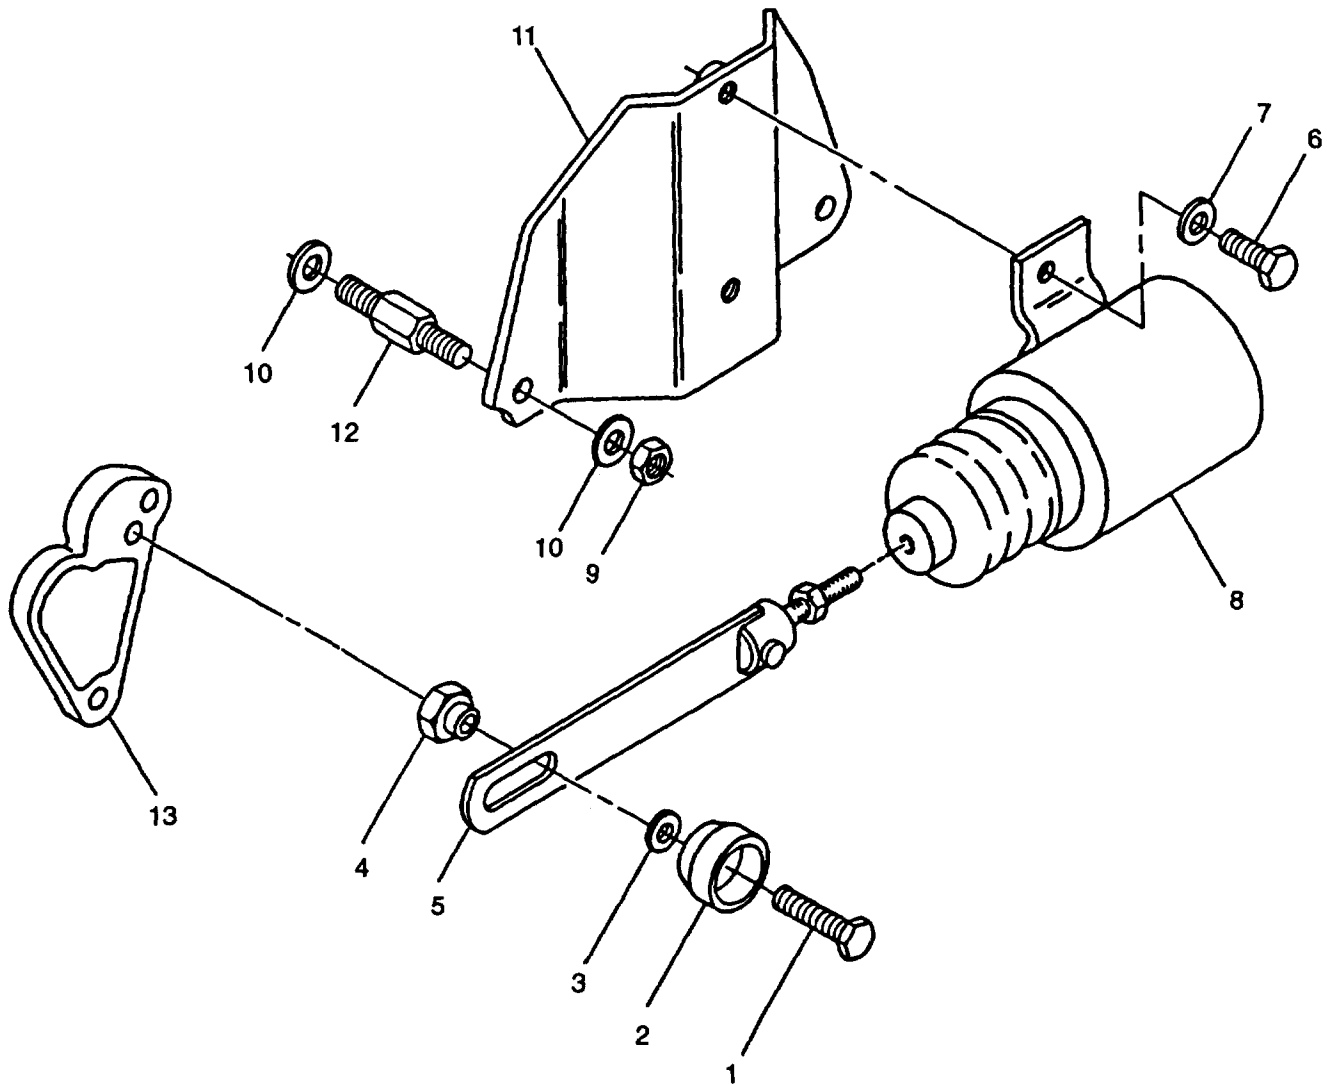

FIGURE 3-14. Fuel Solenoid Installation
- a. Tag and disconnect electrical leads from solenoid (8, FIGURE 3-14).
- b. Remove capscrew (1), knob (2), washer (3), and retaining nut (4) securing linkage (5) to lever (13).
- c. Remove two capscrews (6) and washers (7) securing solenoid (8) to bracket (11); remove solenoid (8) with linkage (5).
- d. Count number of threads exposed prior to unscrewing linkage (5). This will aid installation and adjustment.
- e. If damaged or if replacing solenoid, loosen locknut on linkage (5) and unscrew linkage from solenoid (8).
- f. If damaged, remove two nuts (9) and washers (10) securing bracket (11) to engine; remove bracket (11).
- g. If damaged, remove two studs (12) and washers (10) from engine block.
- a. If removed, install two studs (12, FIGURE 3-14) and washers (10) in engine block.
- b. If removed, position bracket (11) on studs (12) and secure with two nuts (9) and washers (10).
- c. If removed, screw linkage (5) into solenoid (8) leaving number of threads exposed as noted during removal. Tighten linkage locknut.
- d. Position solenoid (8) with linkage (5) on bracket (11) and secure with two cap screws (6) and washers (7).
- e. Connect linkage (5) to lever (13) using cap screw (1), knob (2), washer (3), and retaining nut (4).
- f. Connect electrical leads to solenoid (8) as tagged during removal. Remove tags.